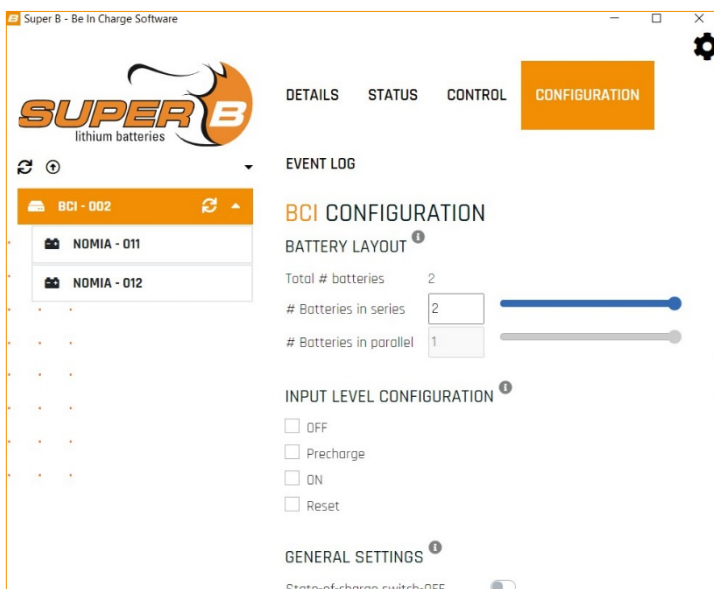

Figure 46. Be in Charge Software - Input level configuration
2. Perform a scan by selecting the scan button or refresh icon on the top-left corner. The Be in Charge software requests the BCI to scan for connected LFP batteries. When the scan is completed, the number of LFP batteries connected will be shown in the “configuration tab” in the “Total # batteries” field (see section 6.5, Figure 46).
The BCI contains four hardware inputs: OFF, Reset, ON and Pre-charge (see Figure 46). The inputs can be used to control the BCI. With the “Input level configuration” box you can select whether the inputs should be active high or active low.